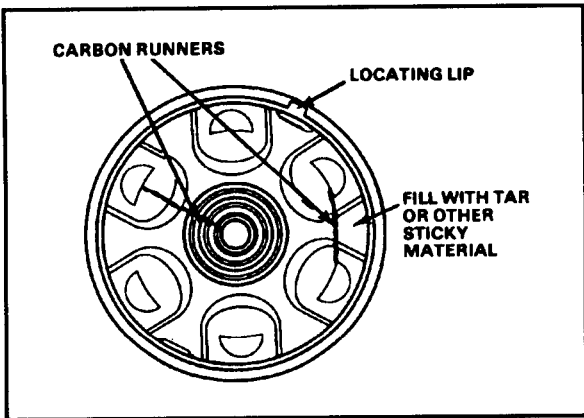

FIGURE 22-15. Shorted Distributor Cap Repair.
*Shorted Distributor Cap.* A cracked distributor cap will cause your engine to miss and backfire, particularly in damp weather when the crack is filled with moisture. To correct this, carefully clean and dry the distributor cap, scrape the crack or runner, and fill the crack with tar or other sticky material (Figure 22-15).